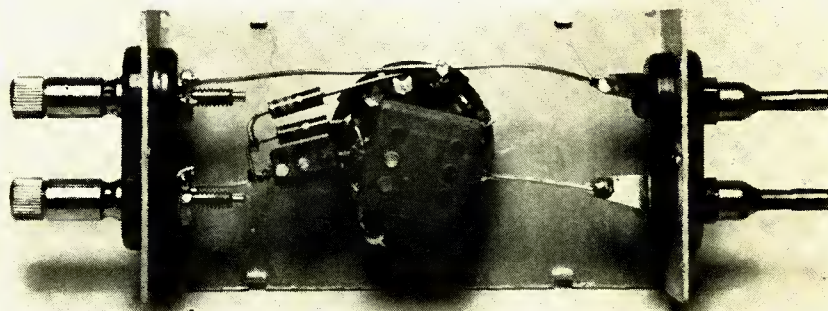

Fig. 7. Internal construction of the unit, showing how all components are mounted on switch.
Fig. 7. Block schematics illustrating how the distribution of feedback can be modified in a two-loop feedback amplifier: in the original amplifier (A) the inner loop gives 6 db feedback, with an attenuation in the feedback of 12 db across a gain of 18 db; this gives a resultant gain of 12 db; the over-all gain is controlled chiefly by the 20 db attenuation in the over-all feedback; with $34 + 12 = 46$ db total forward gain, this loop gives 26 db feedback. By increasing the inner-loop feedback to 10 db (reducing the attenuation in the feedback path from 12 db to 8 db), the output section with feedback now drops to 8 db gain (B), and the over-all gain is now only $34 + 8 = 42$ db. As a result, the outer-loop feedback is now 22 db instead of 26 db. These figures are approximations based on the formula $A = 1/B$, which is not too accurate here; in practice there would be a change in gain of 3 db feedback on the inner loop and of about 2.7 db on the outer loop, leaving a net change of about 0.3 db (lower). A slight reduction in outer-loop feedback could offset this.
To achieve this the feedback resistors in the outer loop need not as a rule be changed, because increasing the feedback in the inner loop alters the effective gain in the outer loop and so automatically reduces the feedback in the outer loop by approximately the same amount as the inner loop feedback is increased. Figure 7 illustrates this. Do not try to vary this more than about 3 to 6 db from the origi-
quite straightforward. The entire wiring is constructed on a two-circuit, six-position switch, and mounted in an aluminum box 2¼ × 2¼ × 4 in. The input terminals are a set of banana plugs, spaced at ¾ in. so as to plug directly into a signal generator. The output is taken from a pair of banana jacks spaced at the same distance. Figure 7 shows an inside view of the unit.